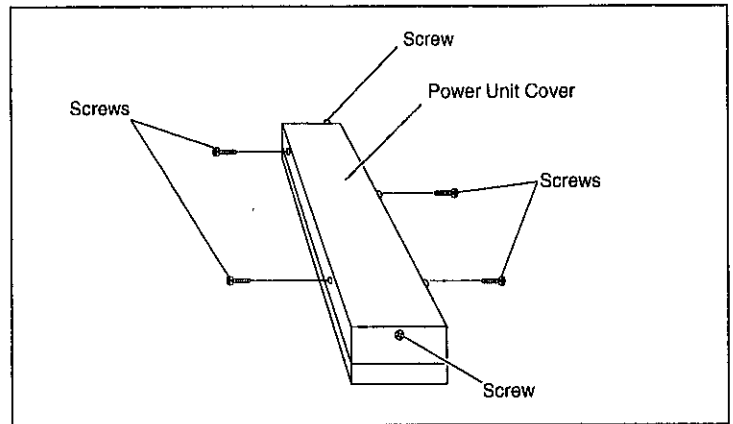

Fig. 8-29
- 5) Remove 6 screws and slide Power Unit Cover to back side, as shown in Fig. 8-29.